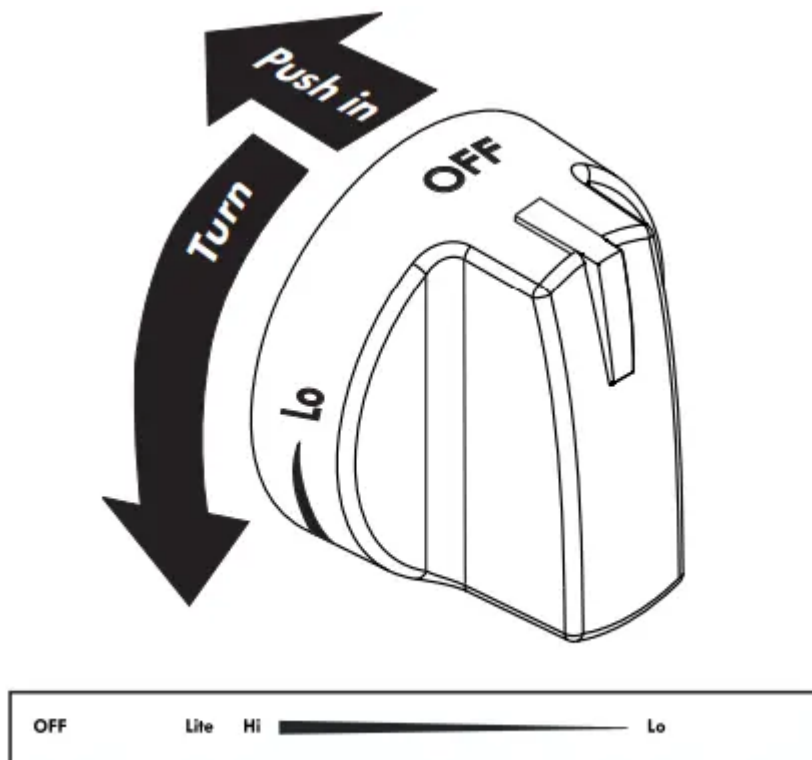

Figure 2 - Regular Burner Control
2. Push the surface control knob down and turn counterclockwise out of the OFF position (See Figure 2).